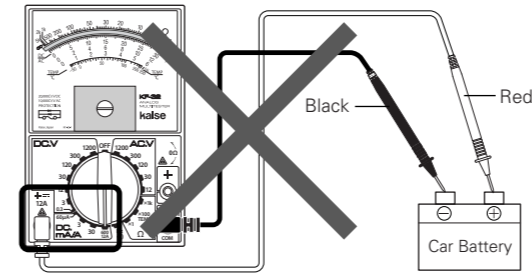
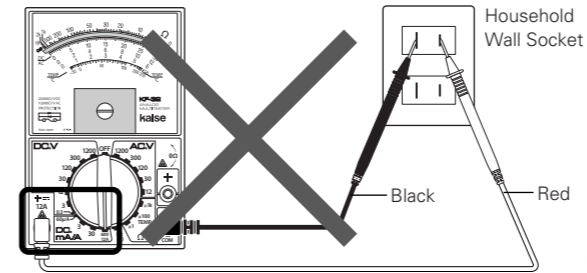

Fig. 3
Fig. 4
3. Do not measure any voltage in 12A DC range. Do not measure +/− terminals of car battery directly (fig. 3). Do not measure household wall socket (fig. 4).